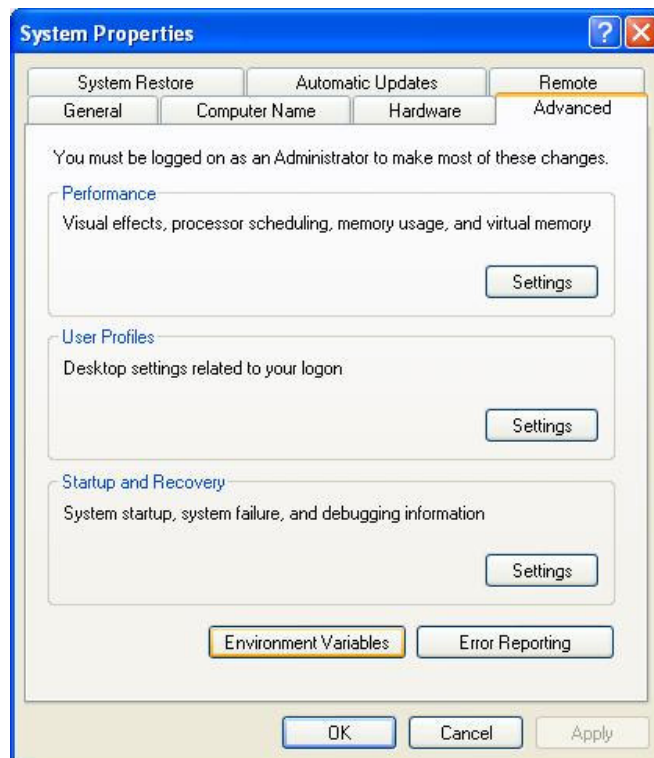

Figure 3-14. EMS server environment-3
3. Click Environment Variables button on Advanced Tab to start Environment Variables Dialog as Figure 3-14.